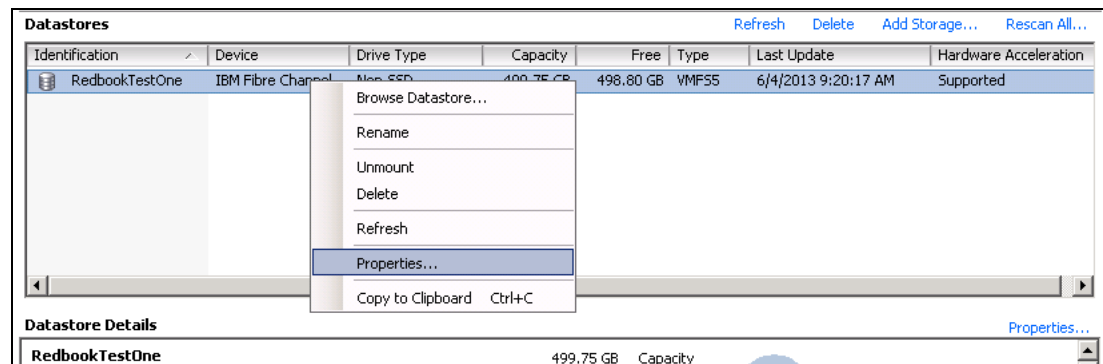
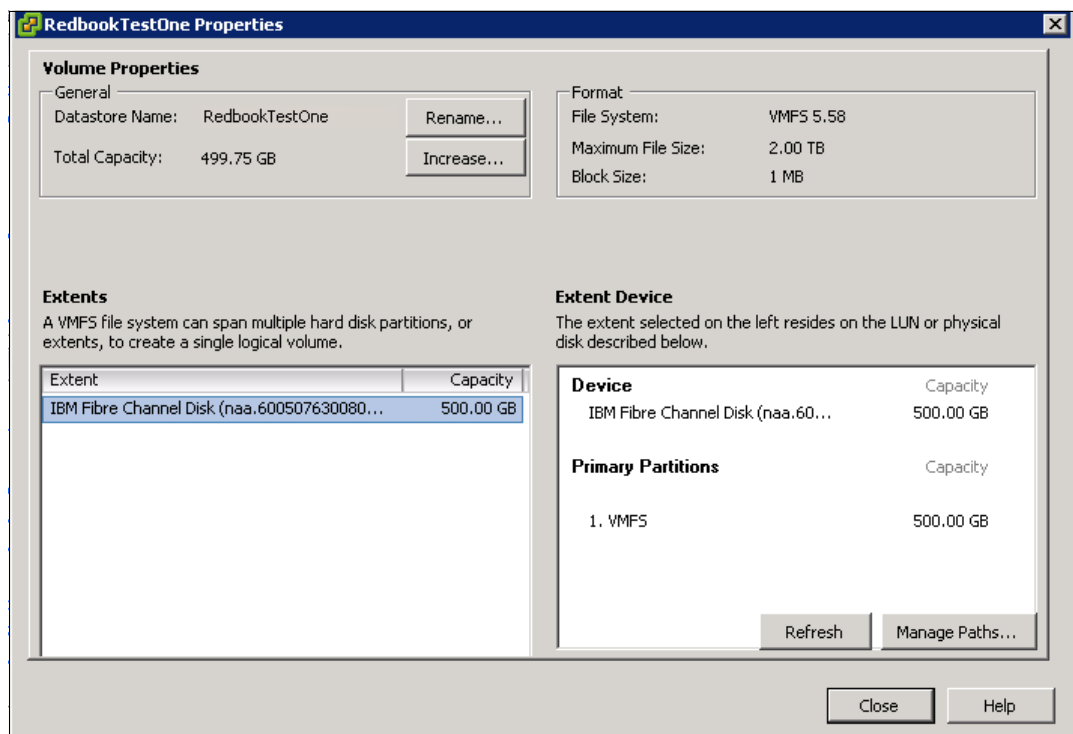

Figure 5-76 Datastore properties
Figure 5-77 Datastore property details
- Highlight the new Datastore and click **Properties** (as shown in Figure 5-76) to see the details of the Datastore, as shown in Figure 5-77 on page 214.